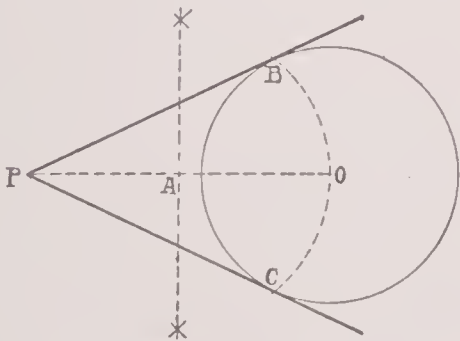

Fig. 14
14. To draw two tangents to a circle from a point without (Fig. 14):